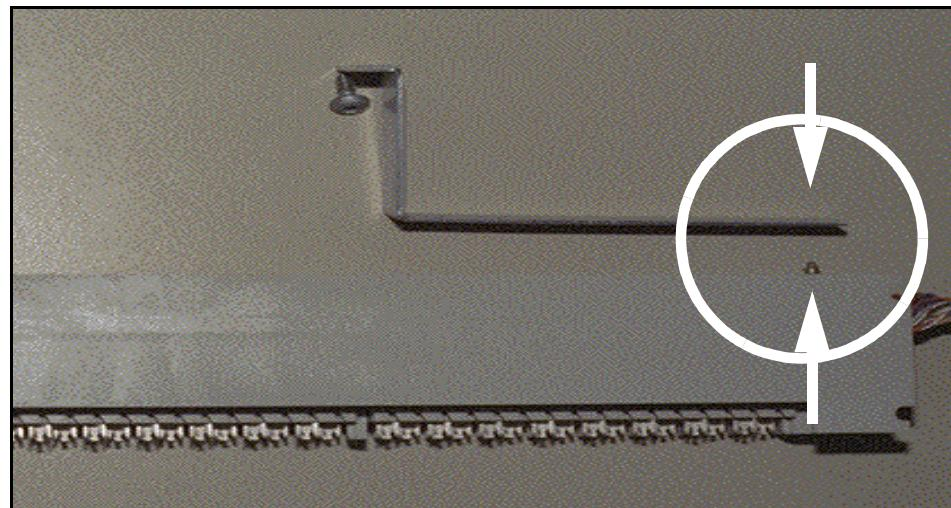

Figure 6 24DA splitting strip adapter strap, right
2. Fasten a screw on the second adapter strap to the right-hand side of the splitting strip, as shown in Figure 6.